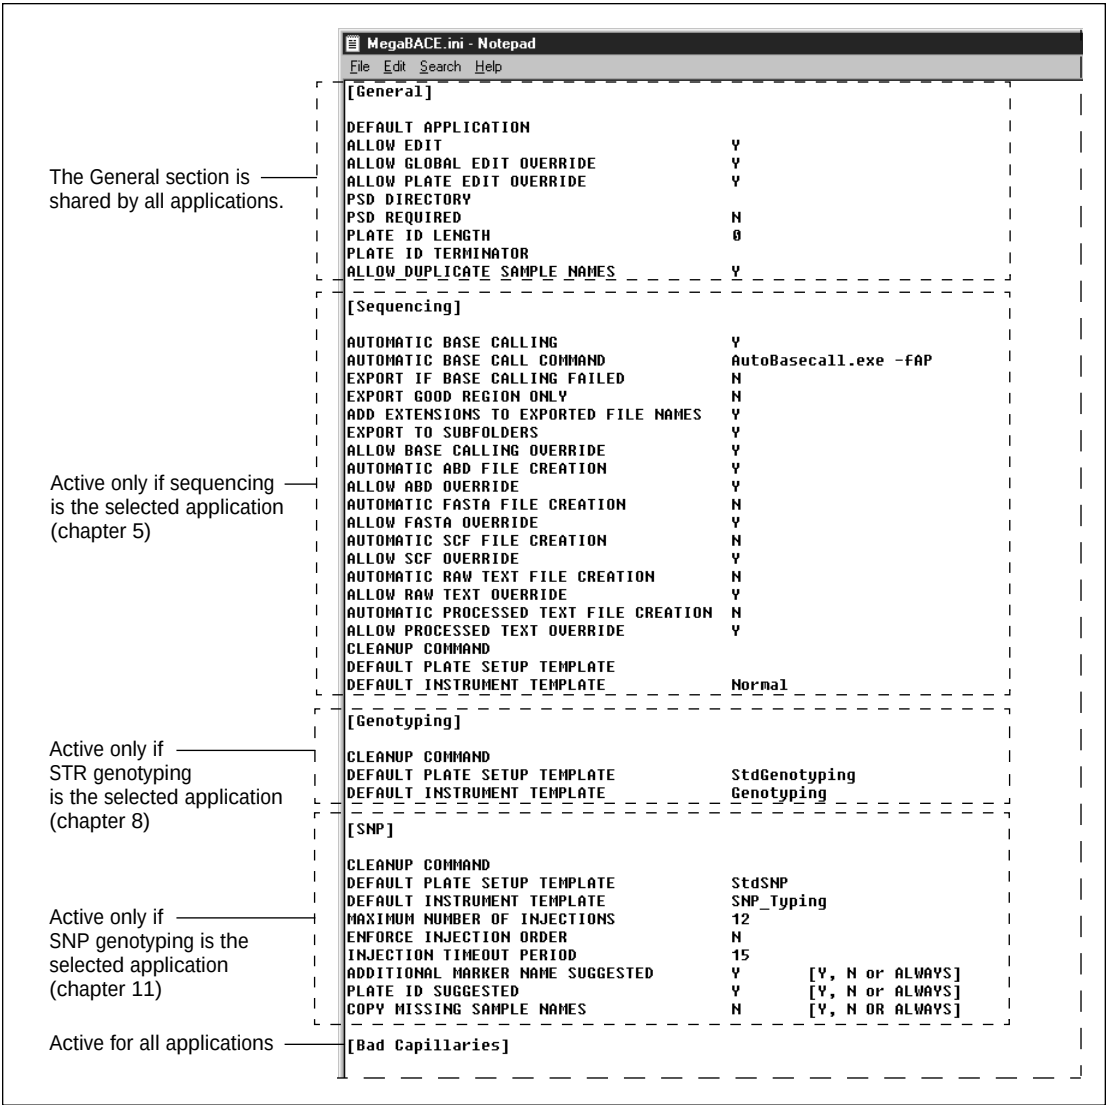

Figure 2-1. The MegaBACE.ini file opened in Notepad.
The MegaBACE.ini file determines the initial settings the Instrument Control Manager uses to control the instrument. The Instrument Control Manager uses only one MegaBACE.ini file that loads automatically when you start the software. Table 2-1 describes the sections in the MegaBACE.ini file, and figure 2-1 shows the MegaBACE.ini file.
The MegaBACE.ini file is in a two-column, tab-separated format (figure 2-1). The first column (field column) contains the various modes and conditions that you can customize for the laboratory. The second column (value column) defines the setting. See section 1.6 for additional details on file formats.
1. Open the **MegaBACE.ini file** in the ...\\MegaBACE\\Instrument Control\\DataSystem folder using any text editor. See figure 2-1 for an example of the MegaBACE.ini file opened in Notepad.